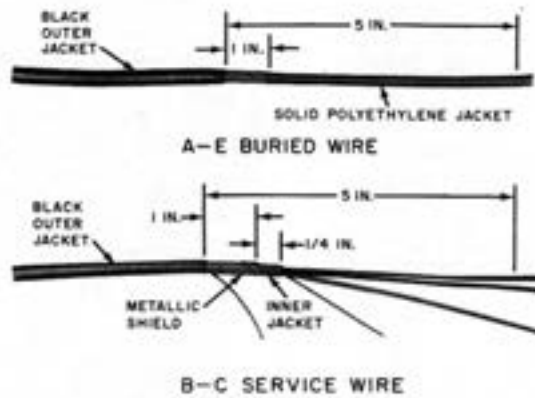

Fig. 32—Sheath Preparation for Placing F Connector
- 11.03 Remove the metal tape as shown in Fig. 32.